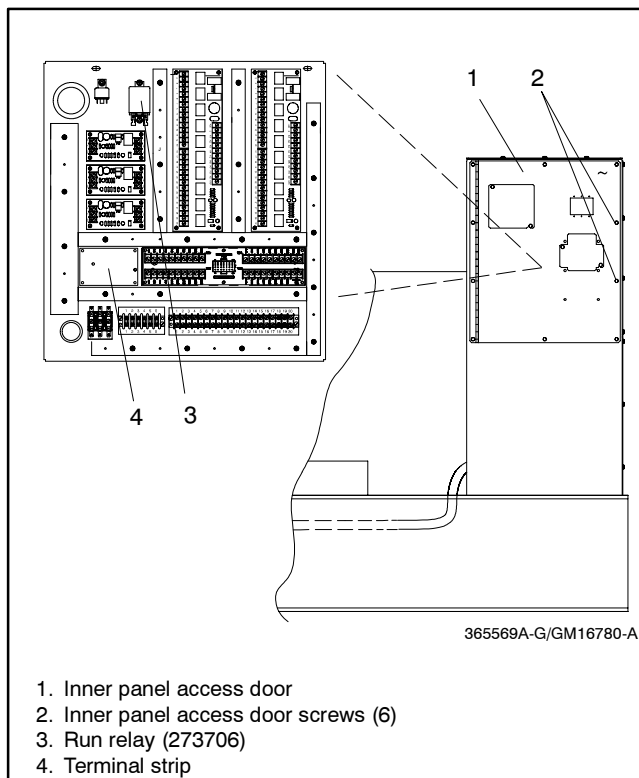

Figure 2 Run Relay Mounting in Junction Box
- 3.1.1 Locate terminal strip TB10 in the inner panel. See Figure 2.
- 3.2.1 Locate terminal strip TB5 in the inner panel. See Figure 2.